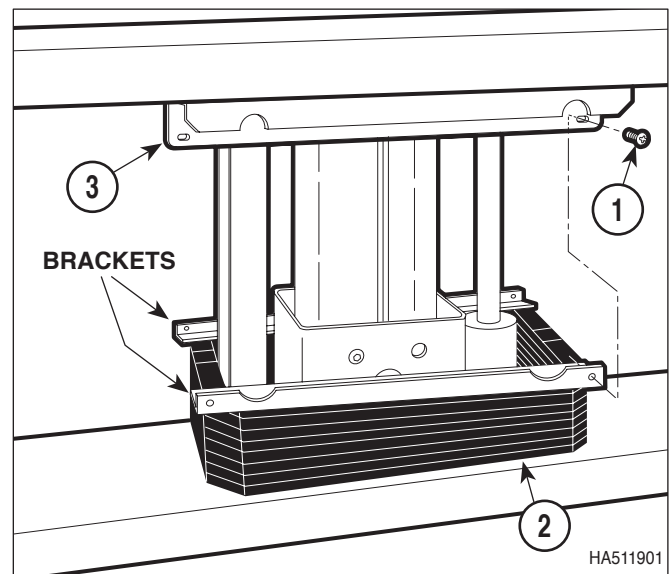

Figure 4-2. Lower Bellows For Access
- (1) Remove four screws (1, Figure 4-2) and lower bellows (2) from litter top (3).